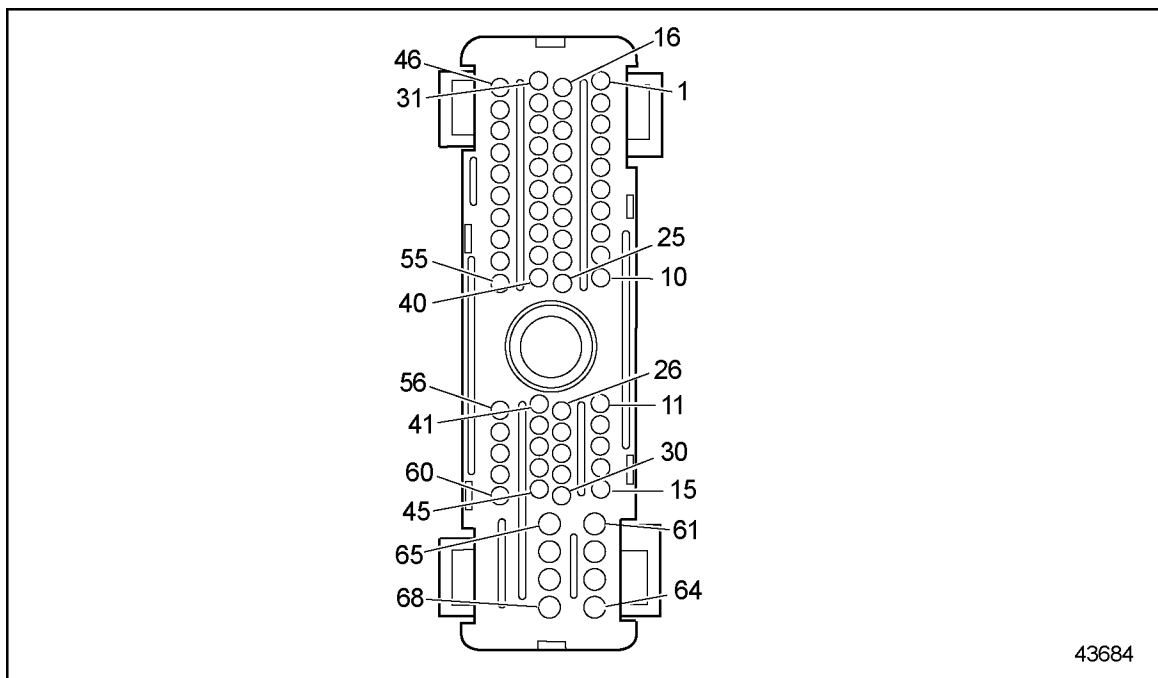

Figure 38-3 ECM/ECU Engine Harness and VIH Connector
See Figure 38-3.
2. Disconnect the vehicle harness connector at the ECM/ECU. See Figure 38-3.